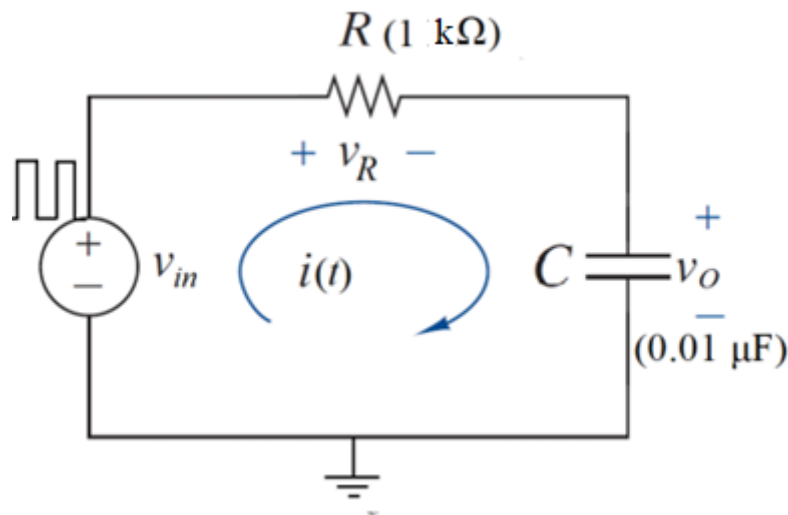

Figure 3: A Series RC circuit
2. Patch the circuit given in **Figure. 3** on the breadboard and apply pulse train to it.
Q3: What would be the effect on v_0 and v_R , if the capacitance value is halved in Fig. 3?